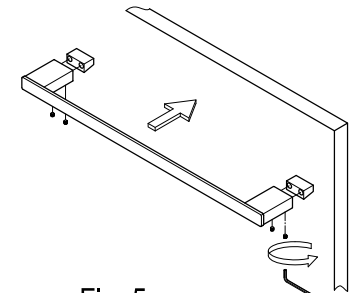

Fig. 5
- Step 7. Insert the unit with holes facing down to the bracket and tighten setscrews with an Allen wrench until the base is tight and secure (fig 5).
- Step 6. Secure the mounting brackets (with the rib facing down) to the wall using the provided screws (fig 5).